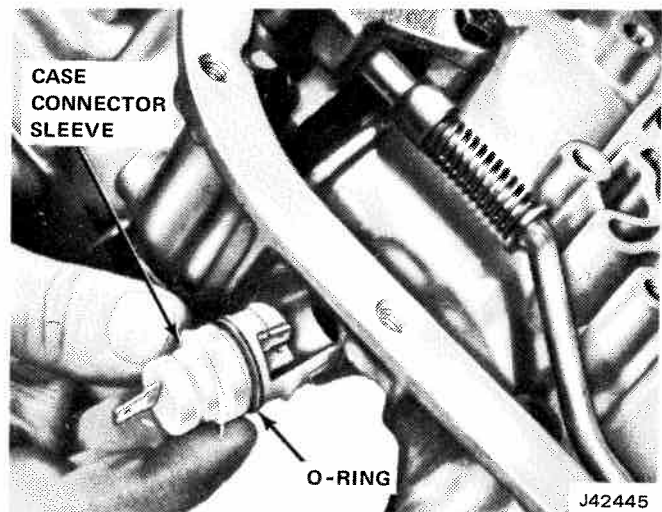
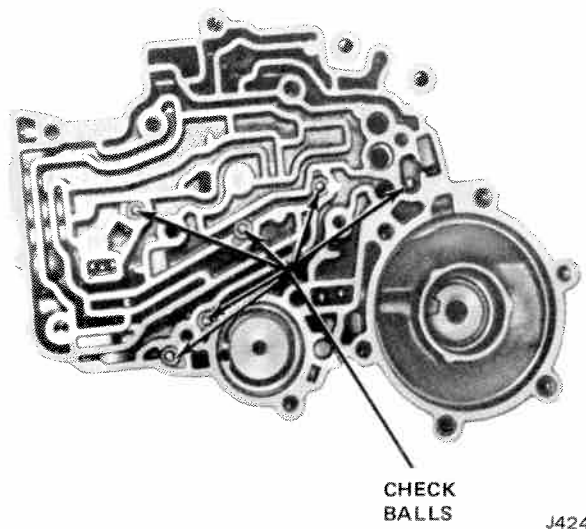

Fig. 7-15 Removing-Installing Case Connector Sleeve and O-Ring Seal
Fig. 7-16 Location of Check Balls
(2) Withdraw detent solenoid case sleeve connector and O-ring seal from Transmission case, as shown in figure 7-15.
(3) Remove control valve assembly spacer plate and gasket.
(4) Remove six check balls from cored passages in transmission case. Refer to fig. 7-16.